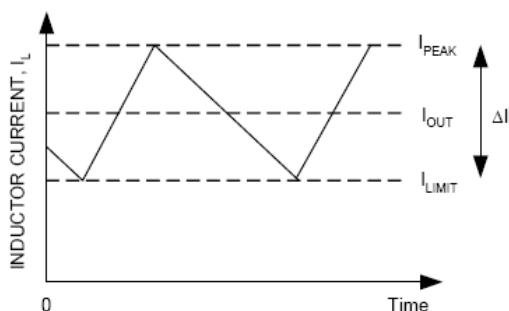

Figure 2. Current-Limit Algorithm
The current-limit circuit employs a "valley" current-sensing algorithm (See Figure 2). The HM1469 uses the low-side MOSFET's RDS(ON) of the synchronous rectifier as a current-sensing element. If the magnitude of the current-sense signal at PHASE pin is above the currentlimit threshold, the PWM is not allowed to initiate a new cycle. The actual peak current is greater than the currentlimit threshold by an amount equals to the inductor ripple current. Therefore, the exact current-limit characteristic and maximum load capability are the functions of the sense resistance, inductor value, and input voltage.